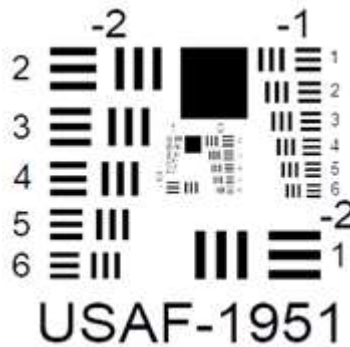

Figure 17 Aligning the endobody clamp with the camera
44. Rotate the endobody clockwise until the endobody clamp is aligned with the camera as shown in Figure 17.